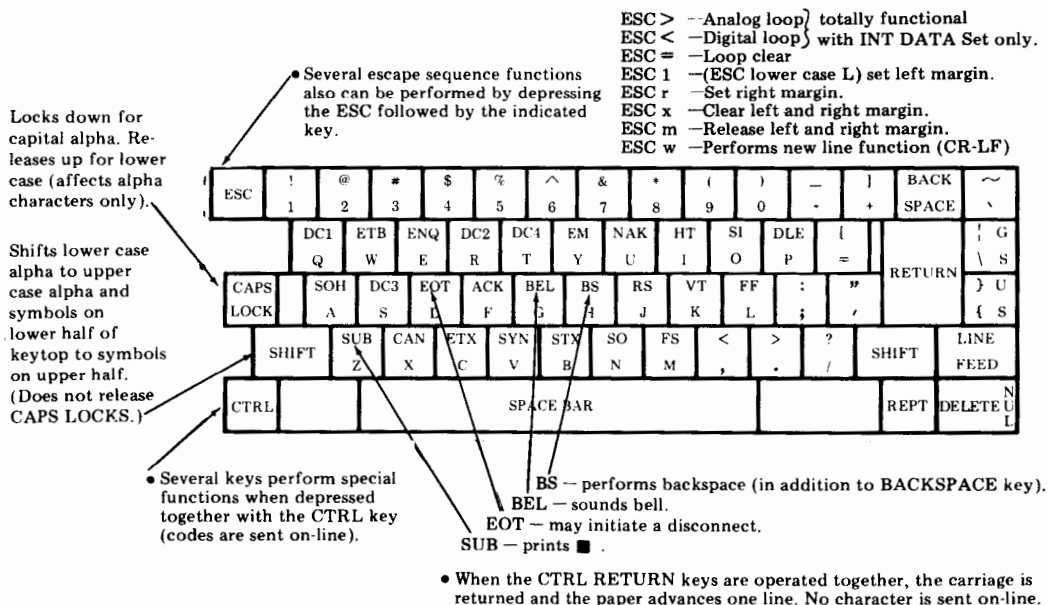

Fig. 4—KSR Keyboard Layout
2.15 The keyboard layout for the KSRs is shown in Fig. 4, along with brief descriptions on the keyboard-printer operation of several special keys. Character transmission is